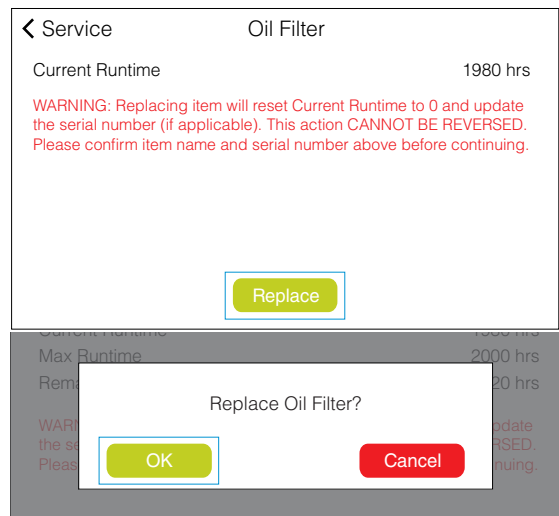

FIGURE 67. PRESS REPLACE; OK
9. On the Oil Filter screen, press **REPLACE**. Press **OK** on the pop-up dialogue box (FIGURE 67).